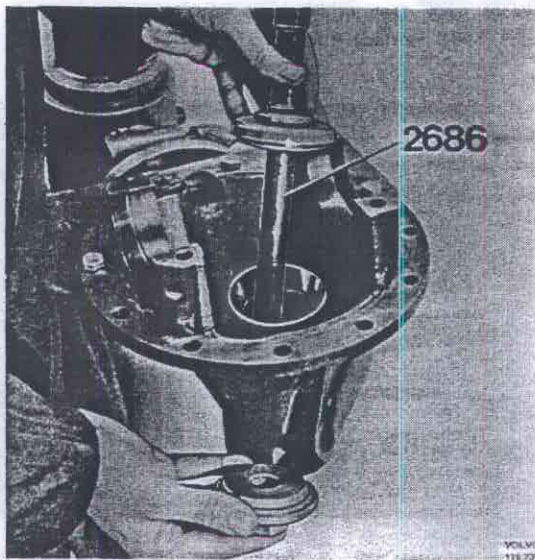

Fig. 46-65. Pressing in the bearing
7. Press in the rear pinion bearing outer race with 2686, Fig. 46-65.